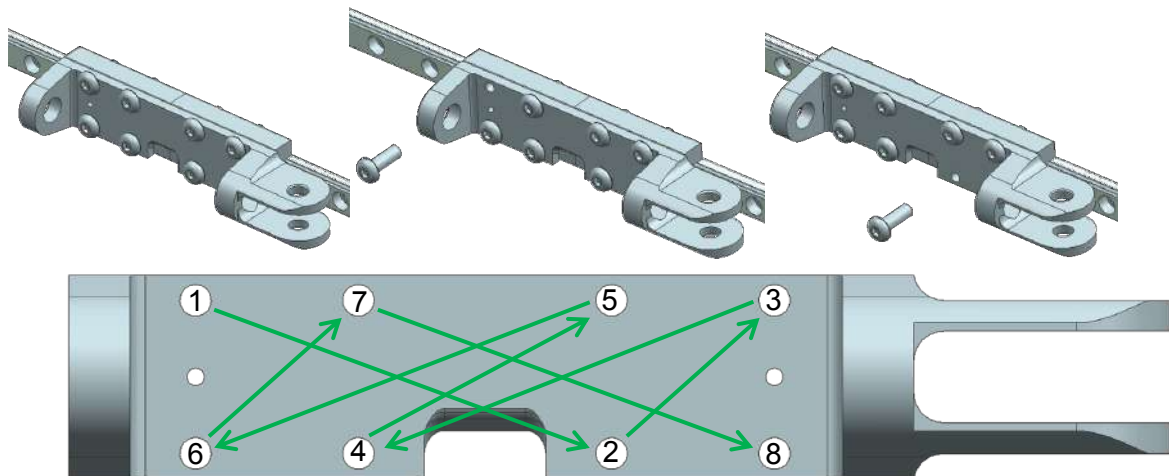

Figure 32-48: Screw tightening sequence
4. Inspect the fasteners securing the rail and the handle bracket and fastened if loose as illustrated in Figure 32-48.